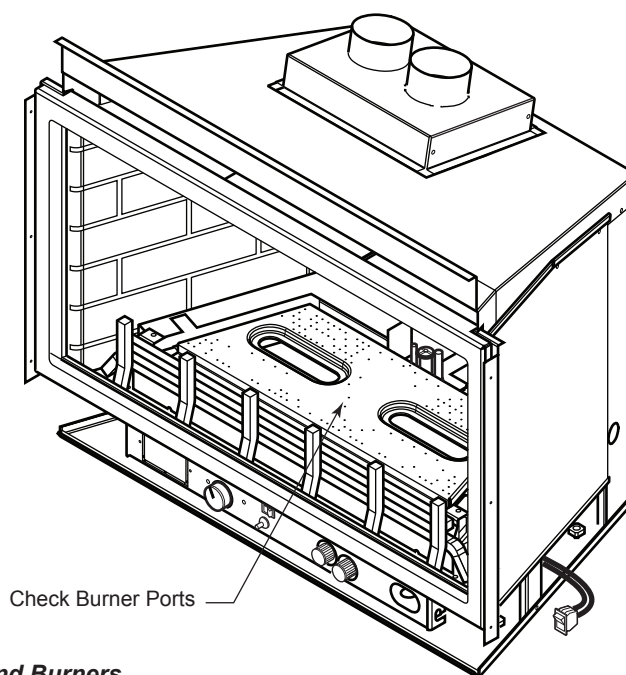

Figure 42 -
4. Clean burner and burner ports. *Figure 42*